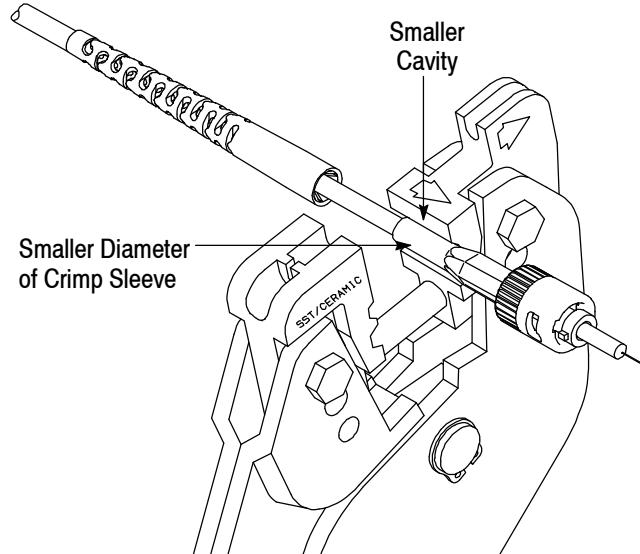

Figure 12
e. Move the crimping tool to the smaller diameter of the crimp sleeve and, using the smaller cavity of the tool, squeeze the tool handles together until they release. See Figure 12.